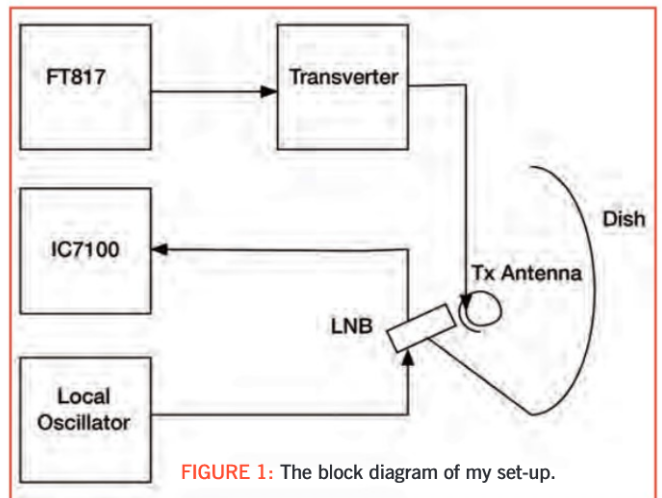

FIGURE 1: The block diagram of my set-up.
My initial thought was to use my Yaesu FT-817 for the up-link, and my Icom 7100 for the down-link using a transverter, as QO-100 operation requires you to monitor your own transmissions (Figure 1). A transverter converts one set of frequencies into another, either up or down depending on the design. The IC7100 cannot accept an input frequency of 10GHz, so a suitable intermediate frequency (IF) needs to be generated. This can be done by modifying the LNB, and